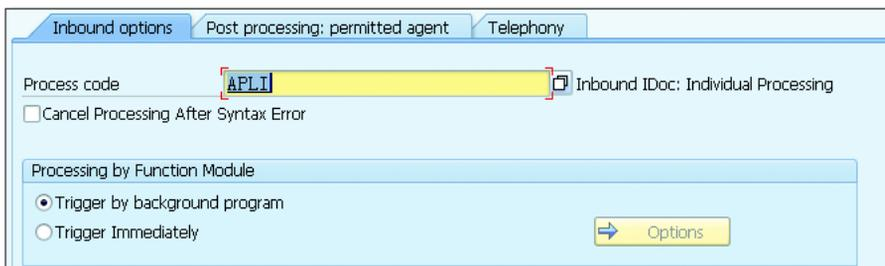

Figure 3.43 Inbound Details
- Assign the PROCESS CODE as APLI (Inbound IDoc: Individual Processing) to the message type CRMXIF_ORDER_SAVE_M (see Figure 3.43).